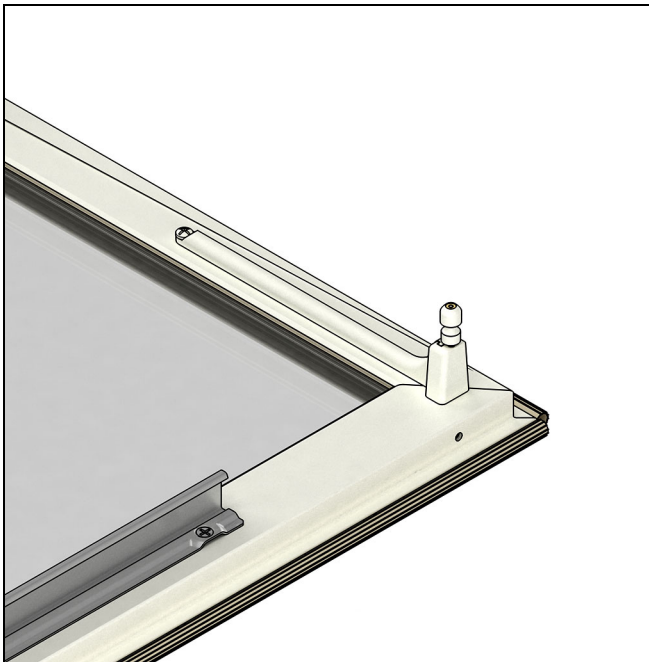

Figure 10 Properly installed WOCD tether assembly.
15. If the locking bullet does not retract quickly and completely, repeat Step 13 through Step 15. If the spring functions properly, ensure the installed tether assembly resembles Figure 10.